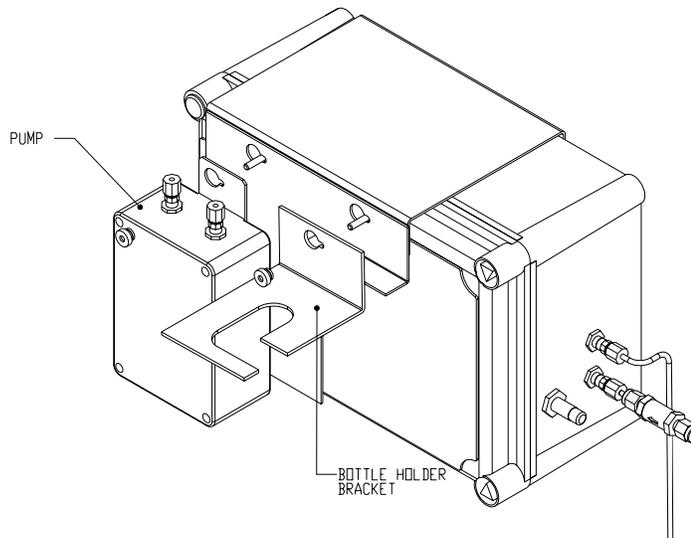

Figure 6
3. Refer to Figure 6. Align the slotted hole in the pump assembly over the left thumb screw, and then slide the pump assembly to the left to hold in position.